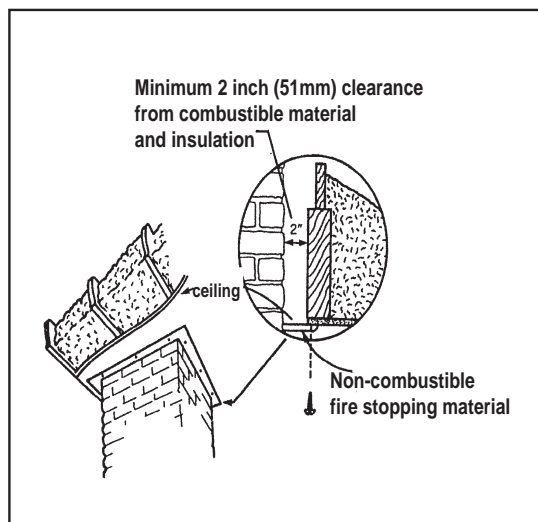

Figure 18.1
- Non-combustible fire stops must be installed at the spaces where the chimney passes through floors and/or ceilings. **Figures 18.1 and 18.2.**